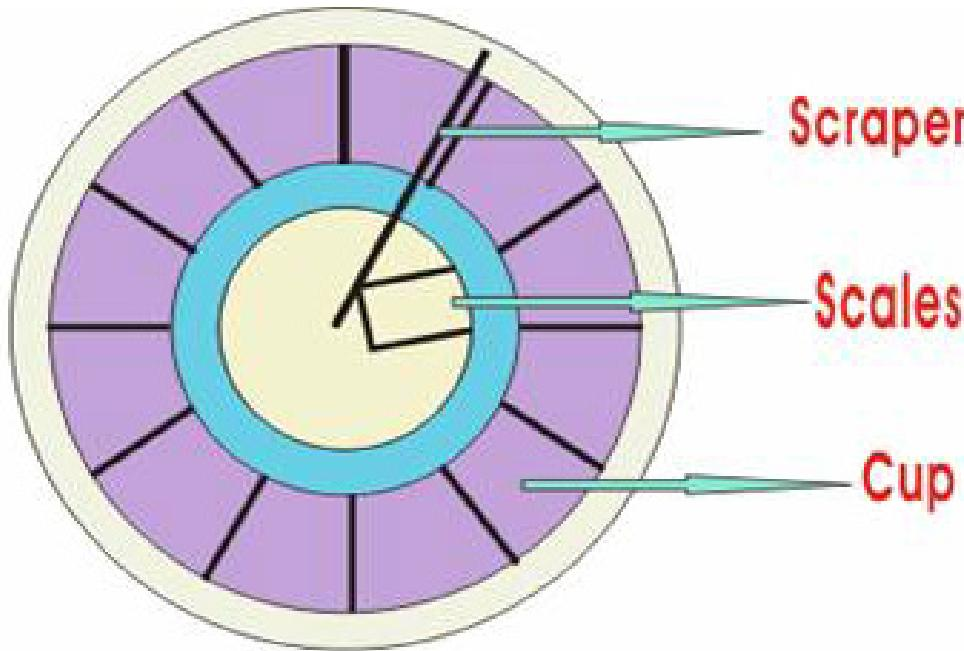

**Figure 20.20 Cup or Flask Fillers**
- Getting its name from the cup or flask that is used to measure the amount of product that is delivered (Figure 20.20). The sides of the cups telescope so that the cup size can be adjusted to the exact volume that is needed.